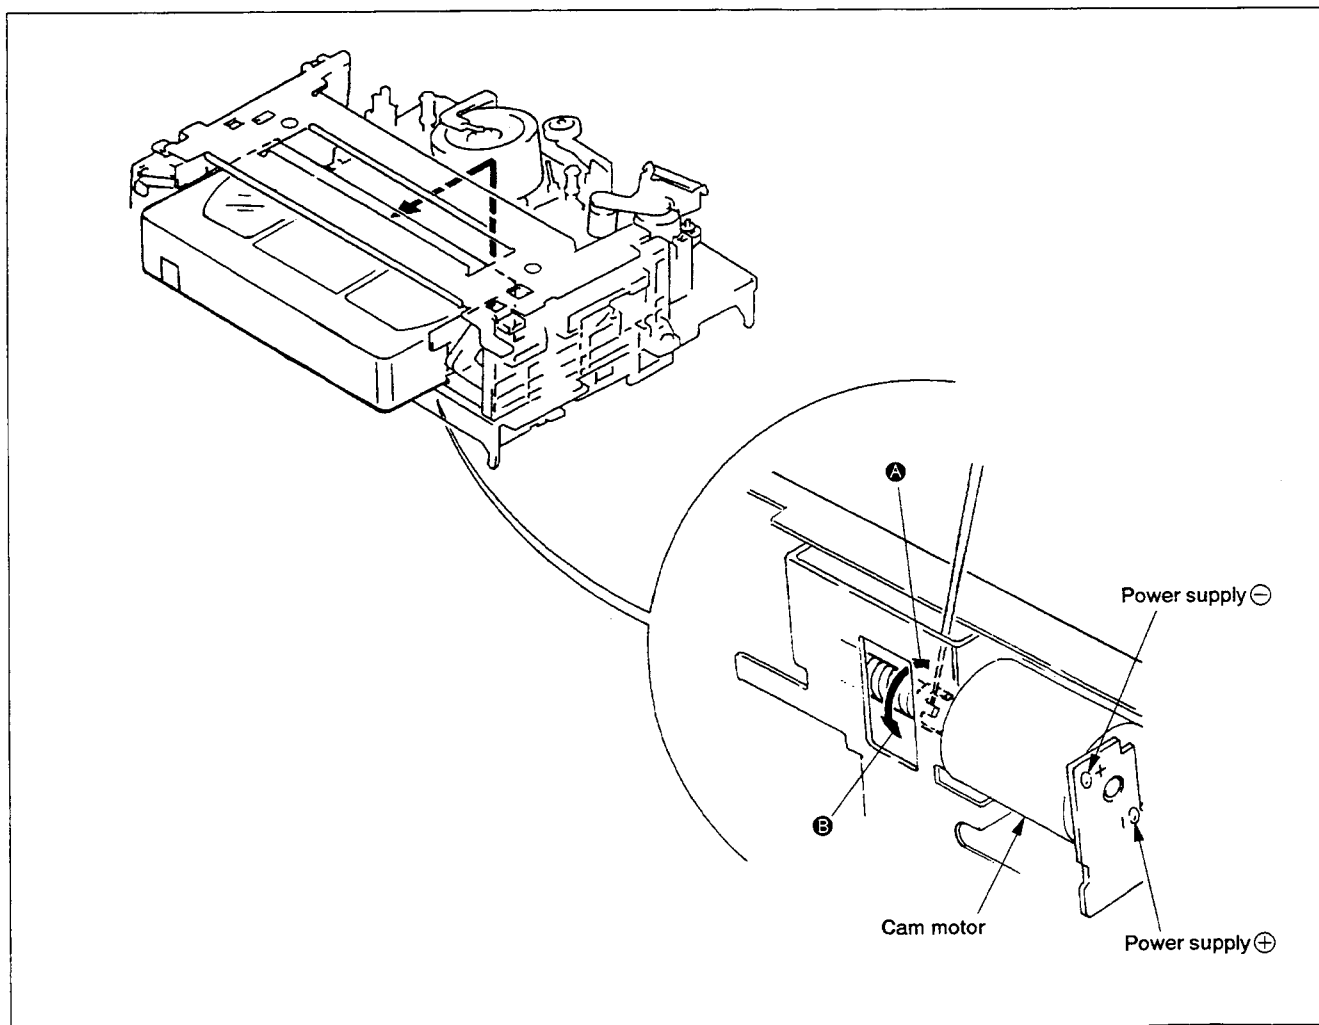

Fig. 1-2
| 1-2.           | Unloading and Unthreading Procedure When the PowerTurns Off (Figs. 1-2 and 1-3) | 4           | 3-15.          | TG8 and Press Gears (Fig. 3-17)                                                 | 25          |
**1-2. UNLOADING AND UNTHREADING PROCEDURE WHEN THE POWER TURNS OFF (Figs. 1-2 and 1-3)**
- 4) Check that tape is not loosened completely, and apply approx. +9 V (300 mA) to contrary polarities of cam motor with regulated DC power supply. (Fig. 1-2)